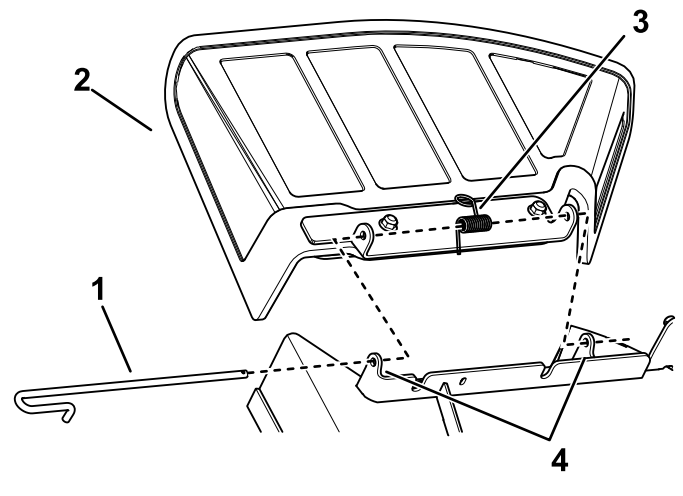

Figure 66
1. Disengage the spring and slide the rod out of the welded deck brackets, spring, and discharge deflector (Figure 66).
3. Position the new discharge deflector with the bracket ends between the welded brackets on the deck and install the rod and spring as shown in Figure 66.
4. Place the end of the rod in the notch of the bracket (Figure 66).